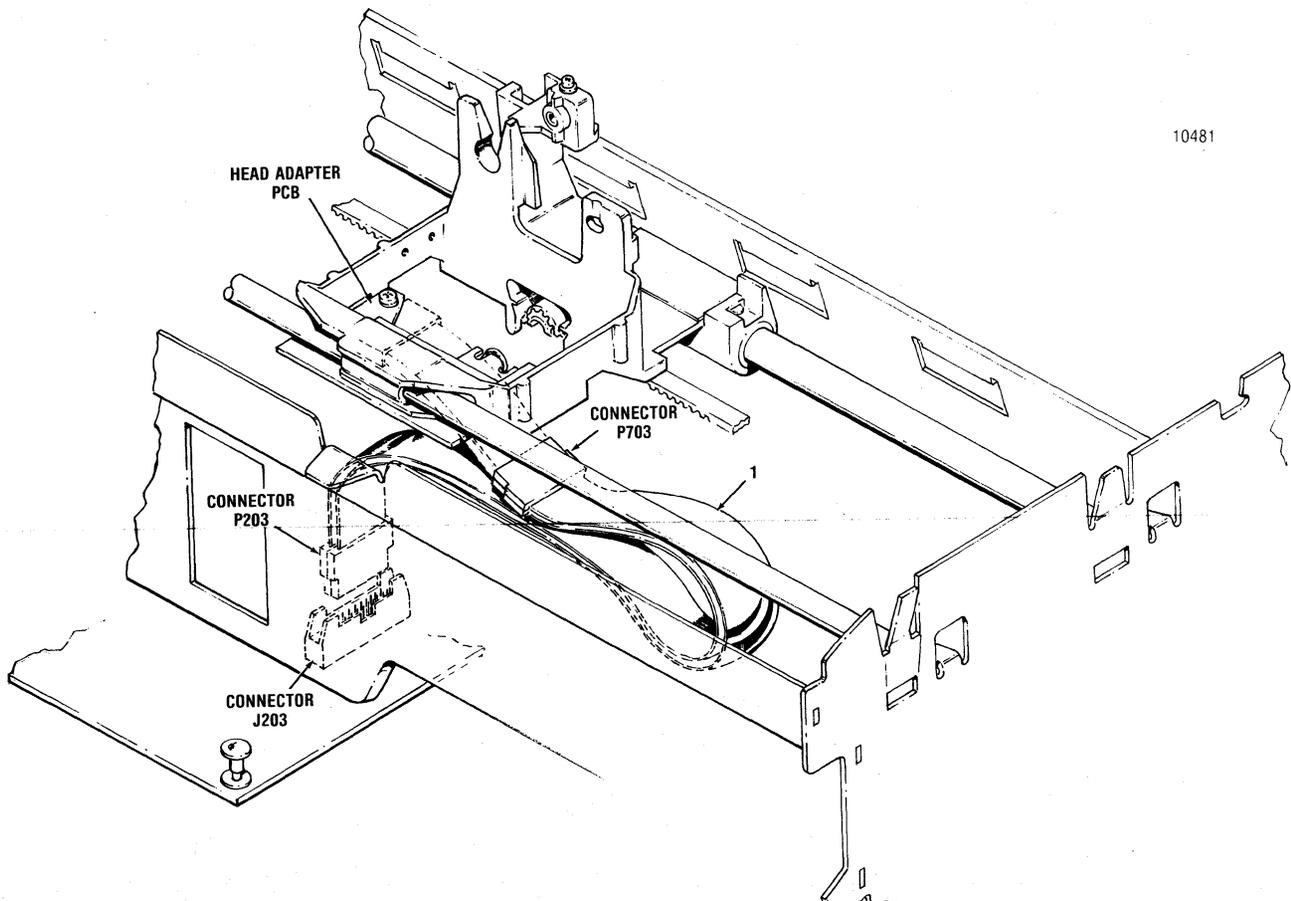

Figure 5-3. REMOVAL/REPLACEMENT, HEAD FLEX CABLE
The head flex cable, item 1 of Figure 5-3, connects the print head assembly and print controller pcb. To remove the head flex cable, refer to Figure 5-3 and perform the following steps: